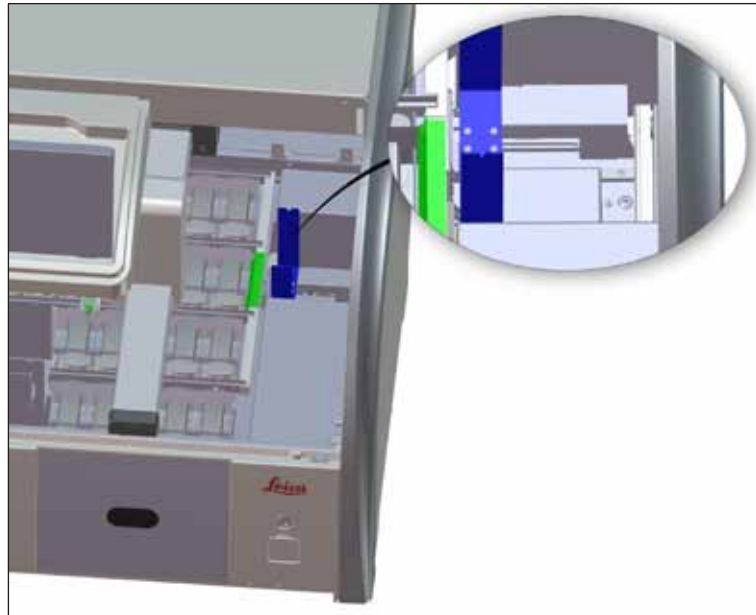

Fig. 94
- Regularly check the transfer station (→ "Fig. 94") for reagent residue and, if necessary, clean it using a commercially available, mild cleaning agent with a neutral pH value.